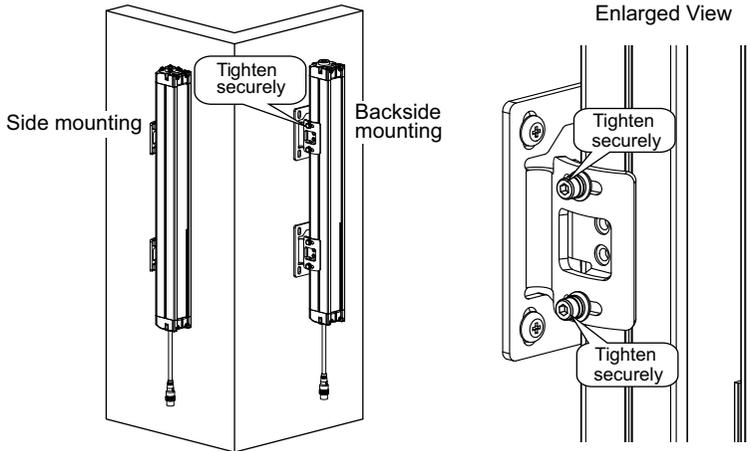

Figure 23
7. Tighten the lightly fastened two hexagon socket head cap screws (M4 x 10) of the free-location mounting bracket (2) and free-location mounting bracket (3). (Figure 23)